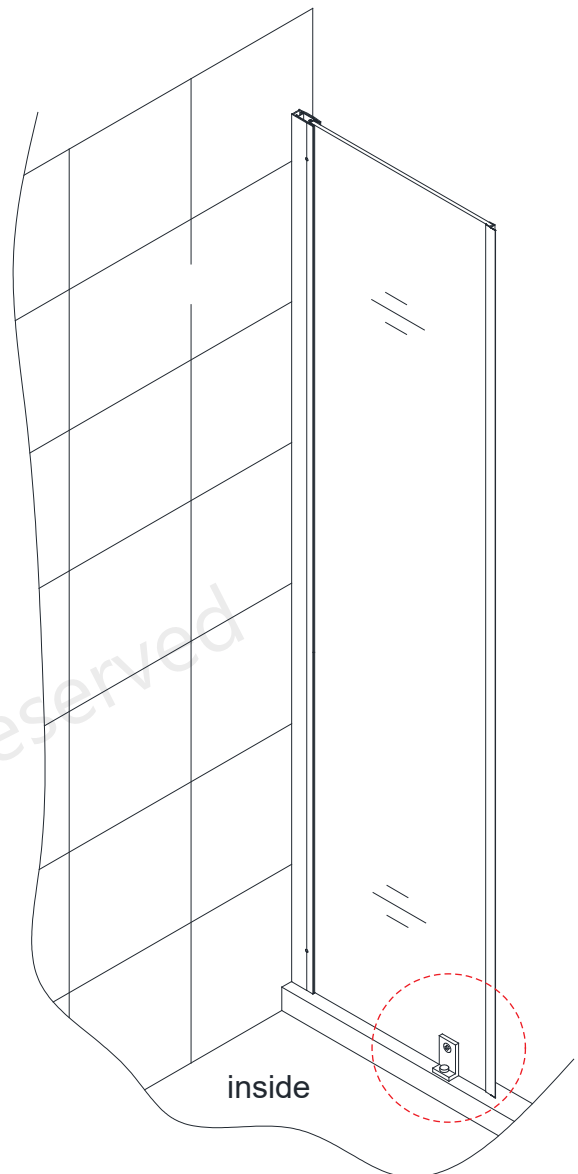

Fig 7b
** Use an **Ø1/8"** drill bit for installation into an acrylic base OR use a **Ø5/16"** drill bit and an anchor for installation into a tile threshold. Use the **Pan Head Screw ST4.2x35 (#16)** along with a raised white washer to attach the **Bottom Bracket (#18)** to the threshold and snap on the **Decorative Screw Cover (#17)**. (**Fig 7a** and **Fig 7b**)